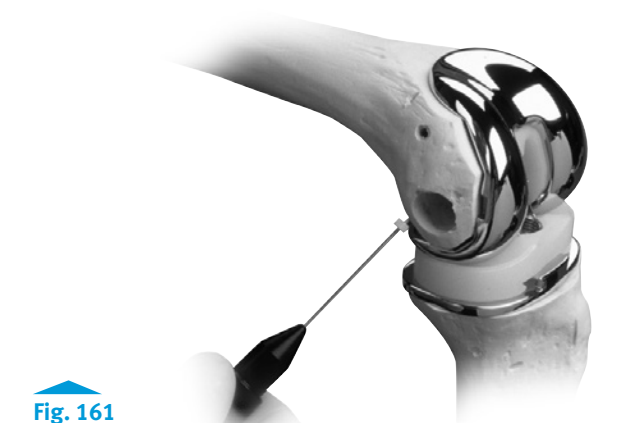

Fig. 161
- Remove the Condylar Trepine Guide from the femoral component by loosening the thumb screw. Use the Hex Cap Removal Tool to remove the polyethylene plug from the hex in the hinge pin by pressing the tip into the center of the hinge pin plug and turning (Fig. 161).